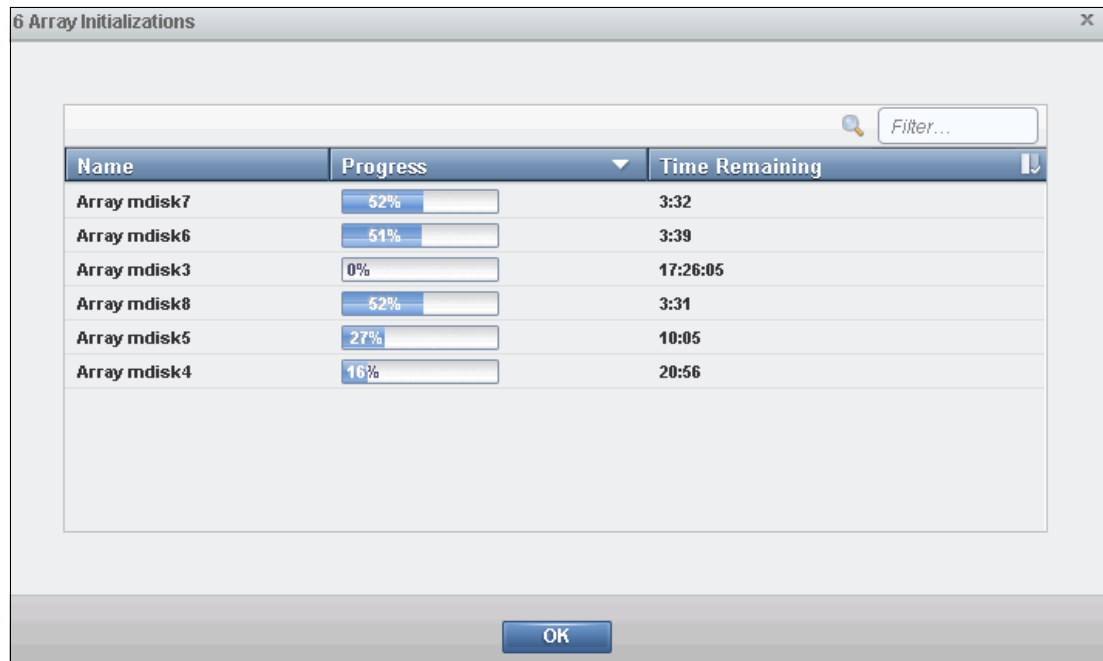

Figure 7-28 Initialization progress view
- Click the taskbar to open the progress window, as shown in Figure 7-28. The array is available for I/O during this process, however performance is affected until the initialization task has completed.